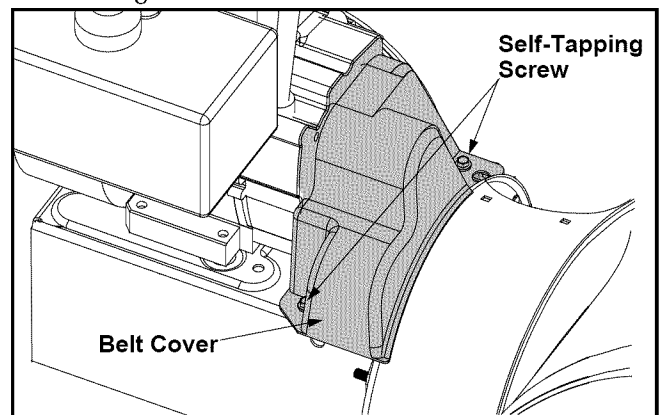

Figure 15
- Remove the plastic belt cover at the front of the engine by removing the two self-tapping screws. See Figure 15.